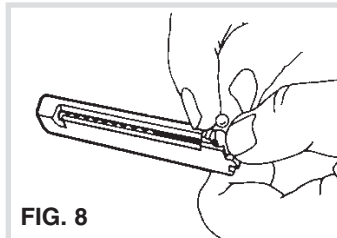

FIG. 8
3. Once the Quick Change Clip follower is locked back, a maximum of 15 BBs can be inserted into the Quick Change Clip. This is accomplished by opening the BB retainer door so that the BBs can be individually inserted into the Quick Change Clip as shown in Fig. 8